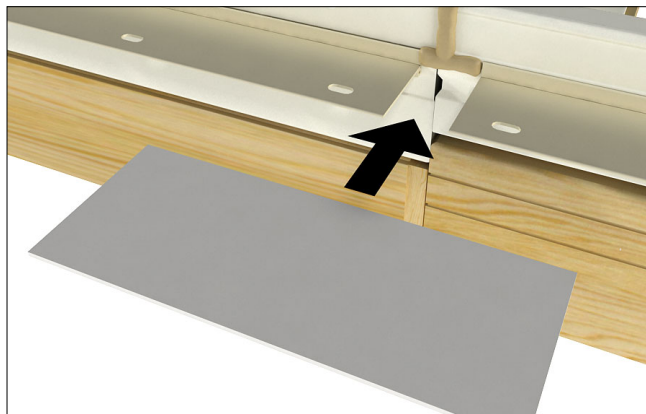

Figure 16
6. Apply silicone sealant at the head jamb mullion joint from the frame exterior edge to the drip cap/ nailing fin kerf and across the kerf over the mulling pin as shown in figure 16. Apply nailing fin connector by removing the paper backing from the connector and pressing into place. See figure 16.